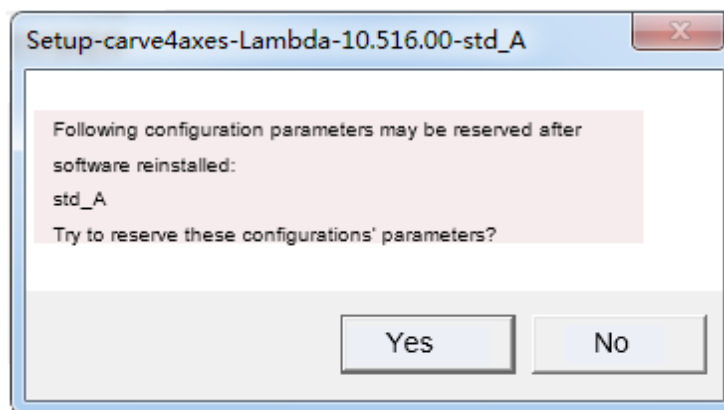

Fig. 2-2 Prompt to reserve parameter settings
- Click "OK", and a dialog box as shown in Fig. 2-2 will pop up. If any old version software has been installed in this PC, the system will prompt to save its parameter settings. If you choose to save the previous parameter settings here, you can apply all of them to the current software.